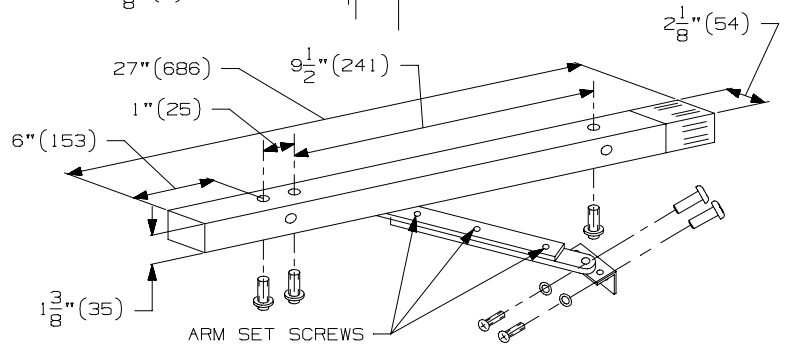

FIGURE 4
13. LOOSEN ARM SET SCREWS (SEE FIG. 4)
14. FOR 180° HOLD OPEN, MOVE THE ARM TO THE BRACKET HOLE CLOSEST TO THE HINGE. OTHERWISE, LEAVE ARM IN CENTER BRACKET HOLE. INSTALL ARM BRACKET USING SEX BOLTS, LOCK WASHERS, AND SEX NUTS (SEE FIG 4)
17. TIGHTEN ARM SET SCREWS (SEE FIG 4) THE DOOR SHOULD NOW BE HELD OPEN.